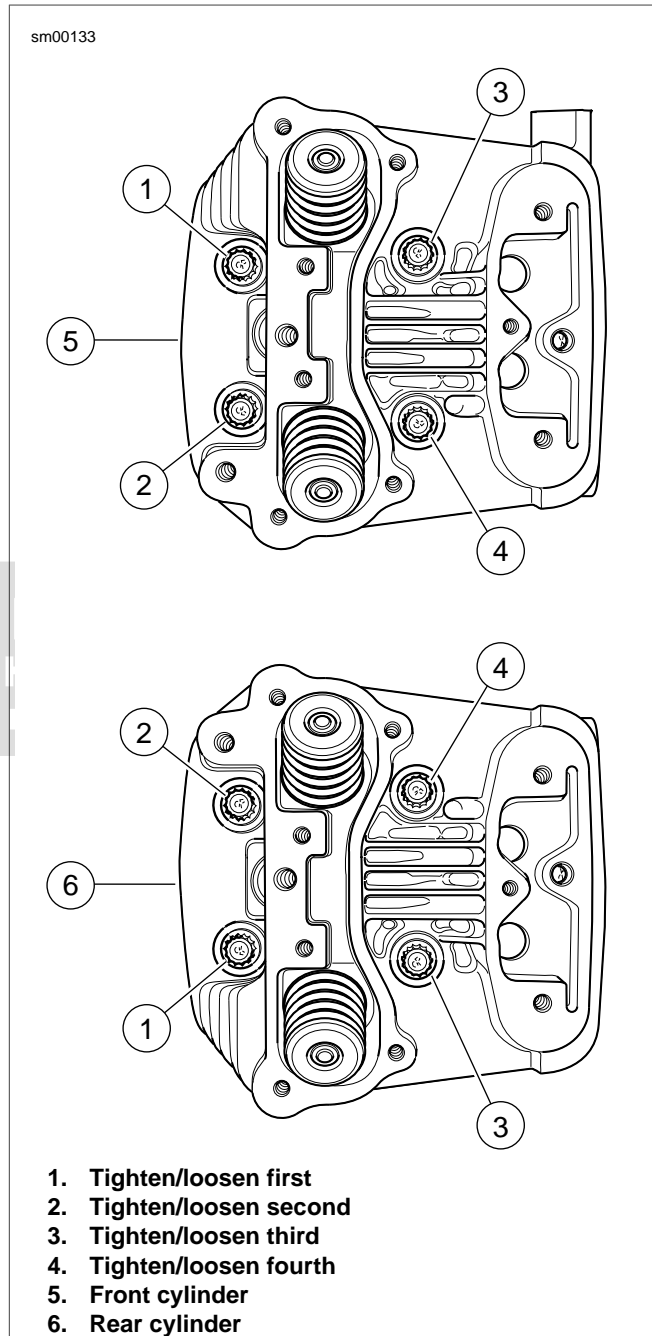

Figure 3-66. Head Screw Loosening/Tightening Sequence
6. See Figure 3-66. For each cylinder head, start with screw numbered one, as shown. In increasing numerical sequence (i.e. - 1, 2, 3 and 4):
- d. Using the marks as a guide, turn each bolt 1/4 turn or 90 degrees. Be sure to tighten the cylinder head bolts in the sequence shown in Figure 3-66.